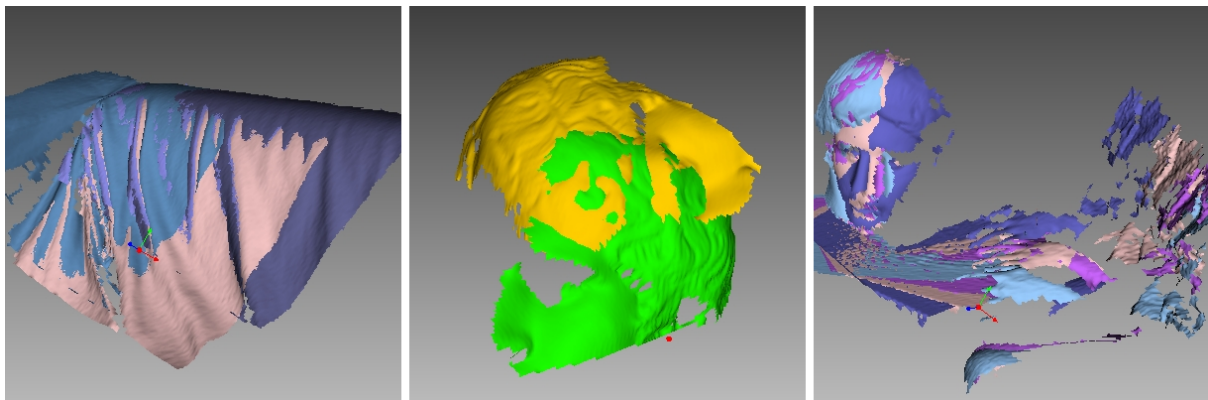

Figure 58: Possible scan errors.
- Misaligned frames (see Figure 58, left)—may occur because of small size, an insufficient number of geometrical features on the object or an insufficient number of polygons in a frame.
- Misaligned parts (see Figure 58, middle)—occurs when the real-time alignment algorithm incorrectly determines the position of the new frame relative to previous ones.
- Unwanted objects in the frame (see Figure 58, right).